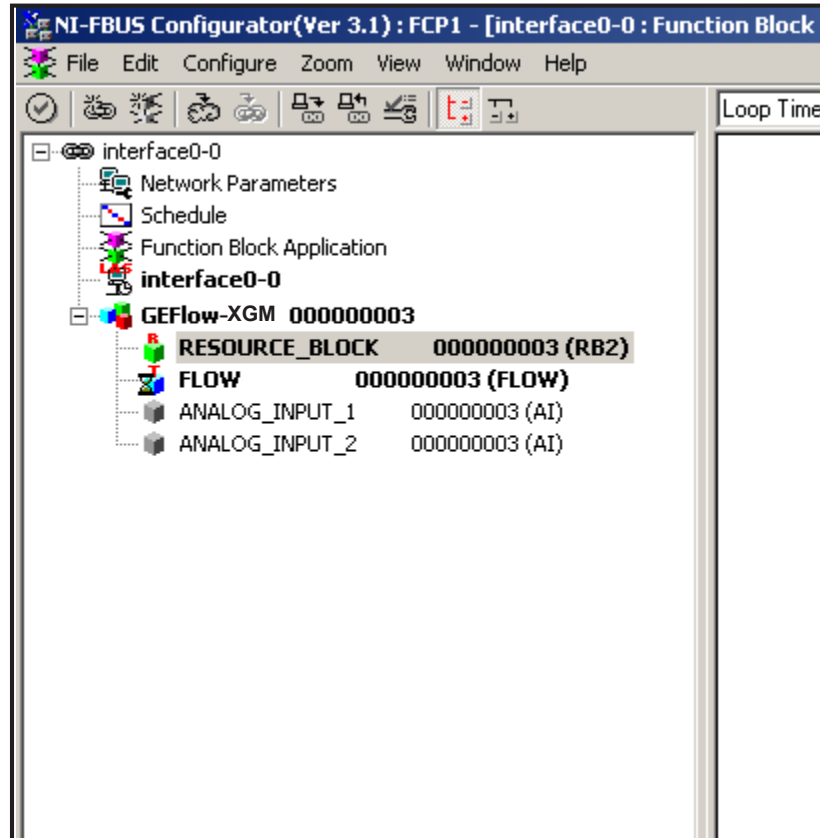

Figure 56: Configuration Utility Setup Example
Figure 56 shows the Configuration Utility with a flowmeter on the network (GE Flow-XGM).
1. Double click on the AI block for which you wish to set the units (ANALOG_INPUT_1 or ANALOG_INPUT_2 in the tree under GEFlow-XGM; see Figure 56 on page 144).
1. Double click on the FLOW transducer block (in the tree under GEFlow-XGM; see Figure 56 on page 144).